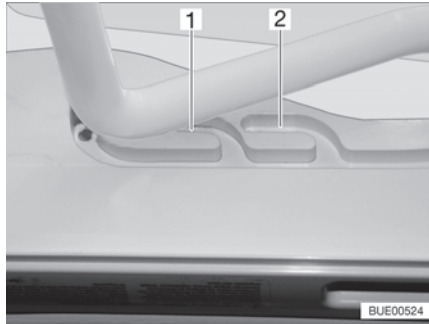
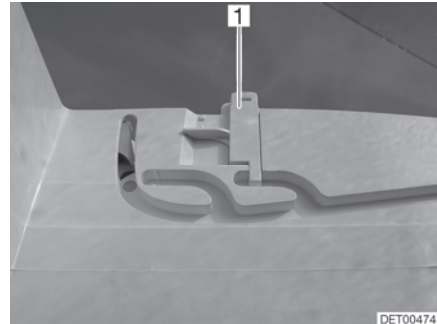

Fig. 45 Guide (ventilation position)
Fig. 46 Lock (ventilation position)
The Heki skylight can be put in two ventilation positions: Bad weather position (Fig. 45,1) and central position (Fig. 45,2). Depending on the model, the skylight can be locked in the central position with both left and right latches (Fig. 46,1) on the skylight frame.
- Push the bar slightly upwards and into the selected guide (Fig. 45,1 or 2) and lock if necessary.